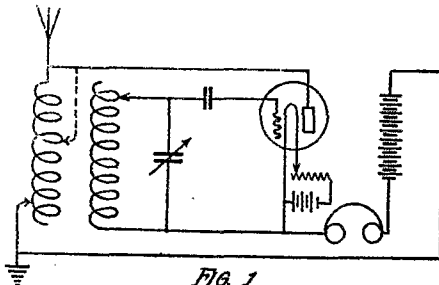

FIG. 1
One form of the cell is shown in Fig. 1. The glass bulb contains a platinum ring on an arm, as an anode (A), and one half of the bulb has been silvered, making a hemi-spherical mirror. The tube is highly exhausted on a mercury pump, and then a small quantity of a pure alkali metal (sodium, potassium, etc.) which has been included in a small well in the tube (B) is carefully distilled onto the silver mirror. This is accomplished by having a heating coil which heats all the glass to above the condensation temperature of the alkali, except that portion where the metal is to be deposited, which in this case is of course the silver mirror. That portion of the cell is kept cold by means of a water bath in order to hasten the condensation of the metal. The most sensitive cells are those in which the metal has been deposited on
**T**HERE seems no end to innovations in undamped circuits. In Figure 1 is presented an idea for an oscillating hookup which may be employed to advantage by those of our readers who possess "Jumbo"